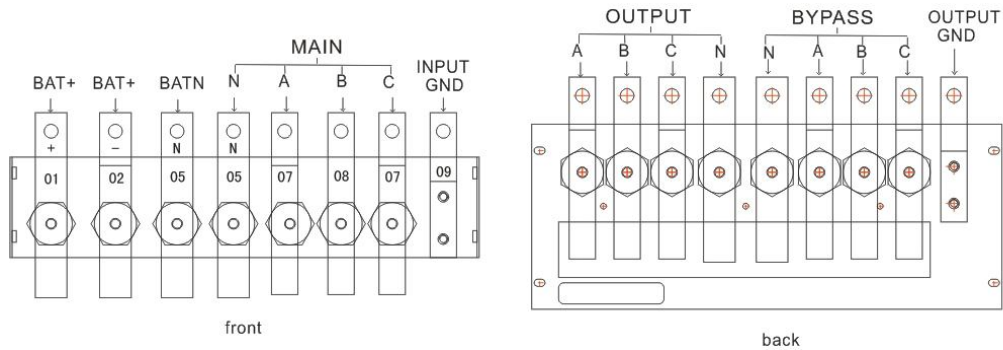

图 2.19 Power distribution board of 200KVA module cabinet
- 2) Connect the battery cable, input cable and output cable with copper bars through the inlet and outlet channels on the top of cabinet. The cable phase showed in Figure 2.19.